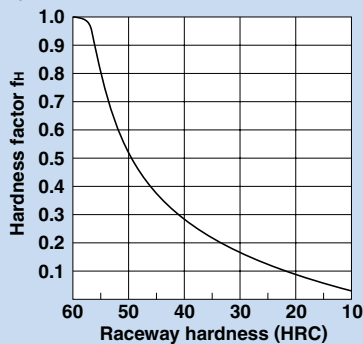

Fig. 1
- C : Basic dynamic load rating*1 (N)
- P_C : Calculated load (N)
- f_H : Hardness factor (see Fig. 1)